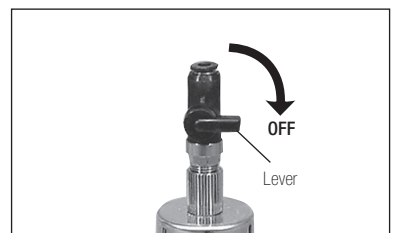

Fig. 13
- (1) Turn the ON/OFF Valve lever to the OFF position. (Fig. 13)